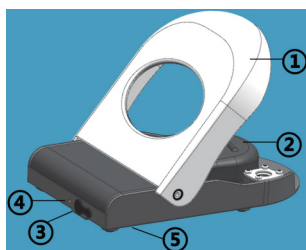

Figure 22
Before use, please check the footswitch for defects. The wireless footswitch consists of a protective cover (①), a pedal (②), a charging interface (③), an indicator light (④) and a pair button (⑤), as shown in Figure 22.